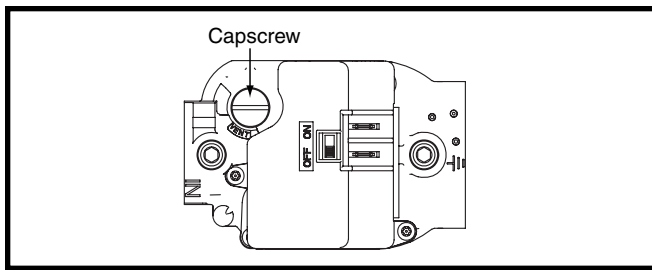

Figure 29. Regulator Capscrew
- Remove the regulator capscrew (Figure 29) from the INLET side of the regulator.